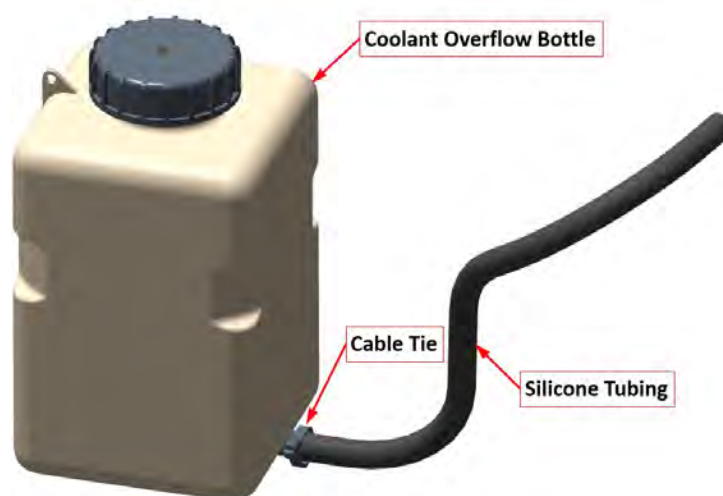

FIGURE 16-40
- a. Cut a 10-inch length of 51135K21 silicone tubing and attach it to the bottom nipple of the bottle. Secure with a TY24MX cable tie as shown in Figure 16-40.